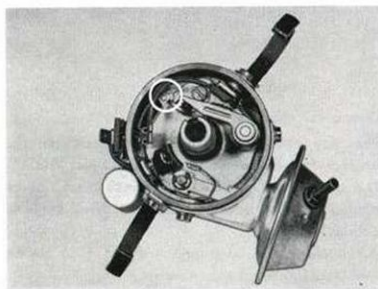

Fig. 3-107. Recess for adjusting the contact breaker
2. Adjustment is made by slackening a little the screw for the breaker contacts and then inserting a screwdriver in the recess, Fig. 3-107, and turning the screwdriver until the dwell angle is the correct one.